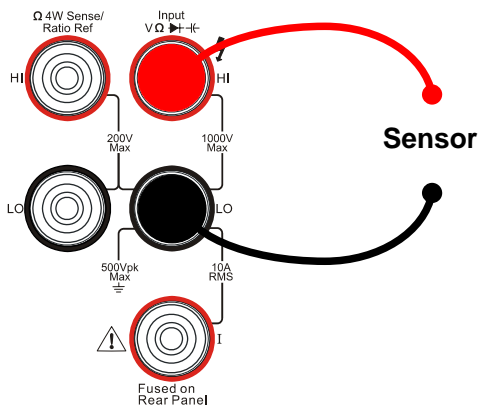

Figure 1-54
1. Connect test leads as Figure 1-54, 1-55 shown. Red test leads connect the HI Terminal, Black test leads connect the LO Terminal.